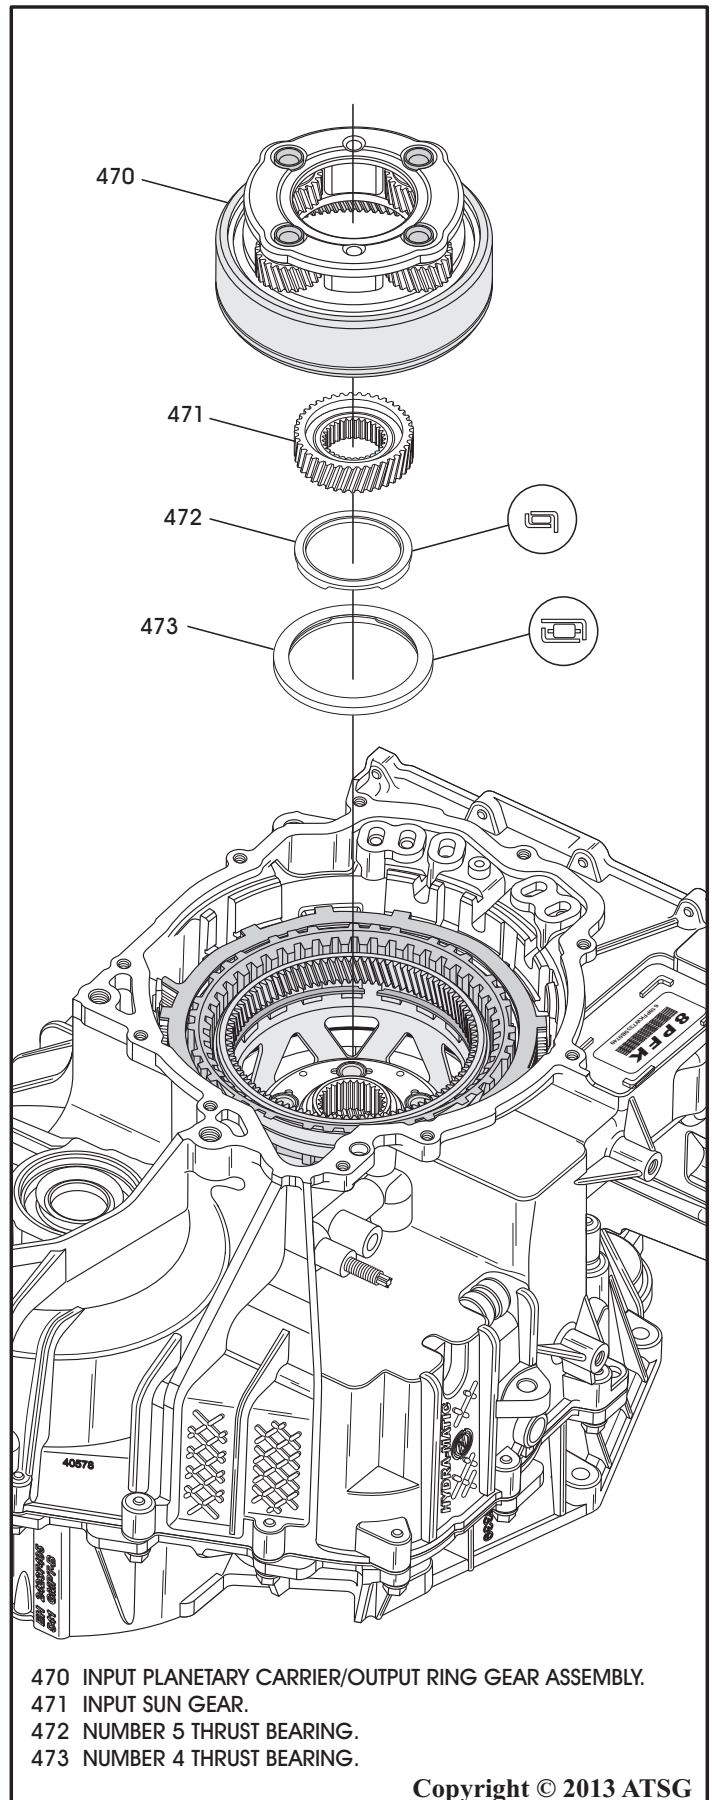

Figure 202
30. Install number 4 thrust bearing in the direction shown in Figure 202.
31. Install number 5 thrust bearing in the direction shown in Figure 202.
32. Install input sun gear, as shown in Figure 202.
33. Install input planetary carrier/output planetary ring gear, as shown in Figure 202, by rotating into position until fully seated.